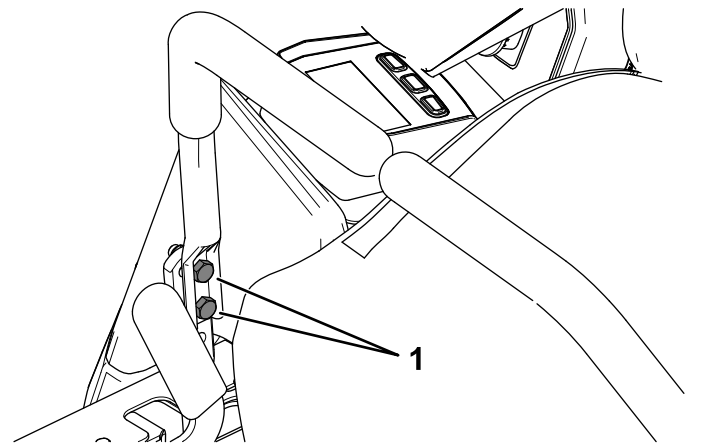

Figure 57
8. If alignment is needed, loosen the 2 motion-control lever mounting bolts on the misaligned side (Figure 57).
10. Tighten the 2 motion-control lever mounting bolts (Figure 57).